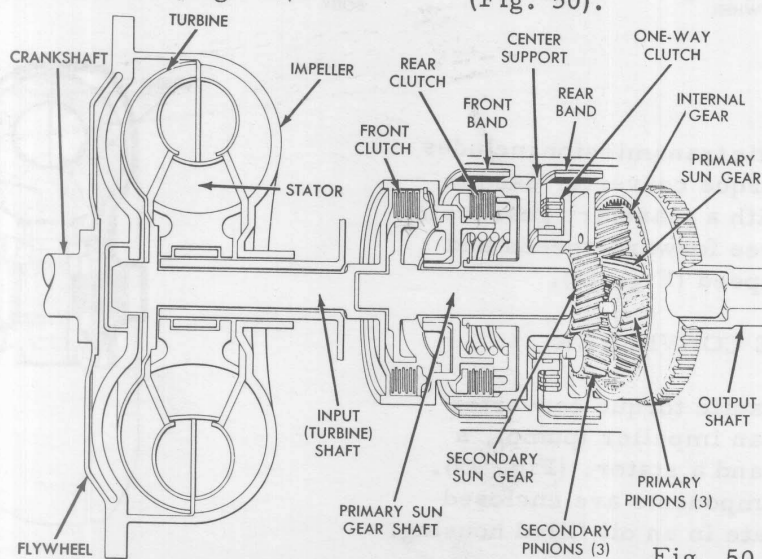

Fig. 50
- ⊗ The planetary gear train includes a primary sun gear, a secondary sun gear, primary and secondary pinions which are supported in a common carrier, and an internal gear. The transmission output shaft is attached to the internal gear (Fig. 50).